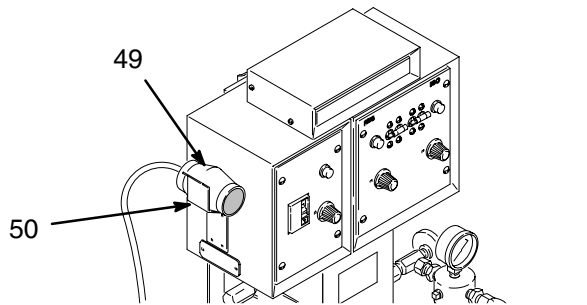

Fig. 12
1. Remove the ATC Sensor (49) from the clamp (50). See Fig. 12.